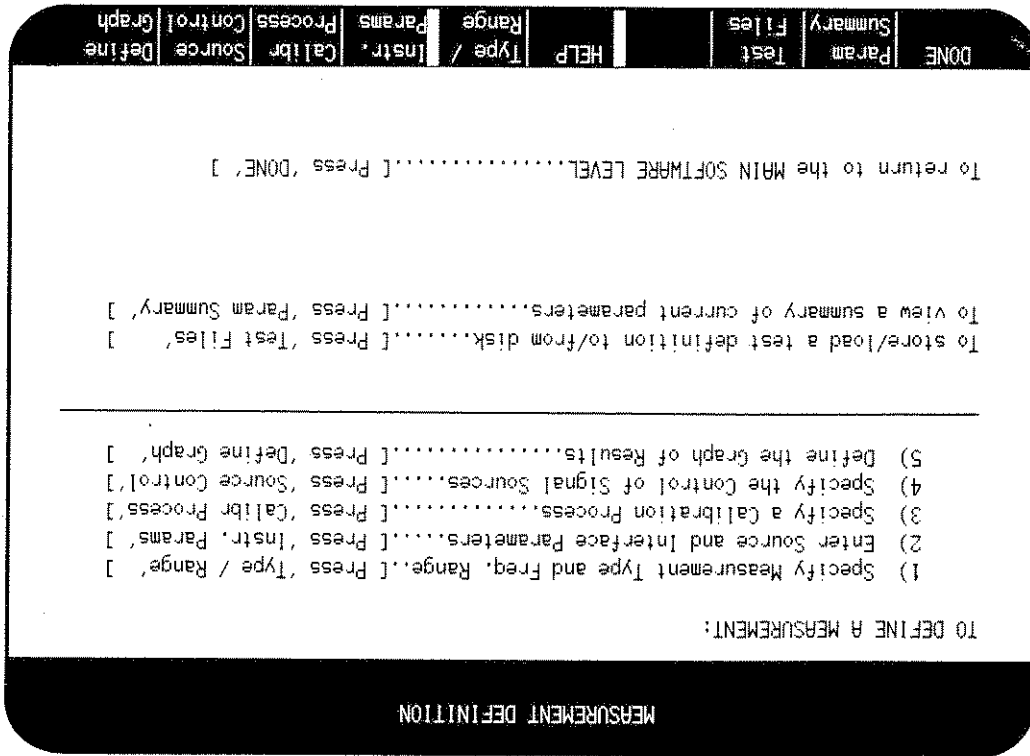

Figure 3-7. Measurement Definition Menu
5. On the HP 3048A press the **Define Msrmt** softkey to obtain the Measurement Definition menu. Refer to figure 3-7.